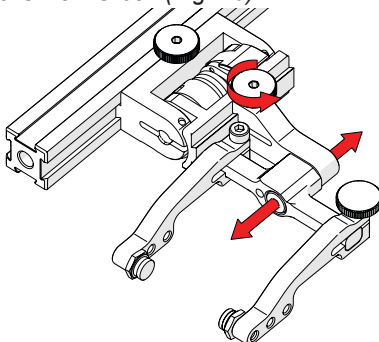

Fig. 71 - Adjust swing arm
3. Use swing arm knob to position the swing arm (Fig. 71).